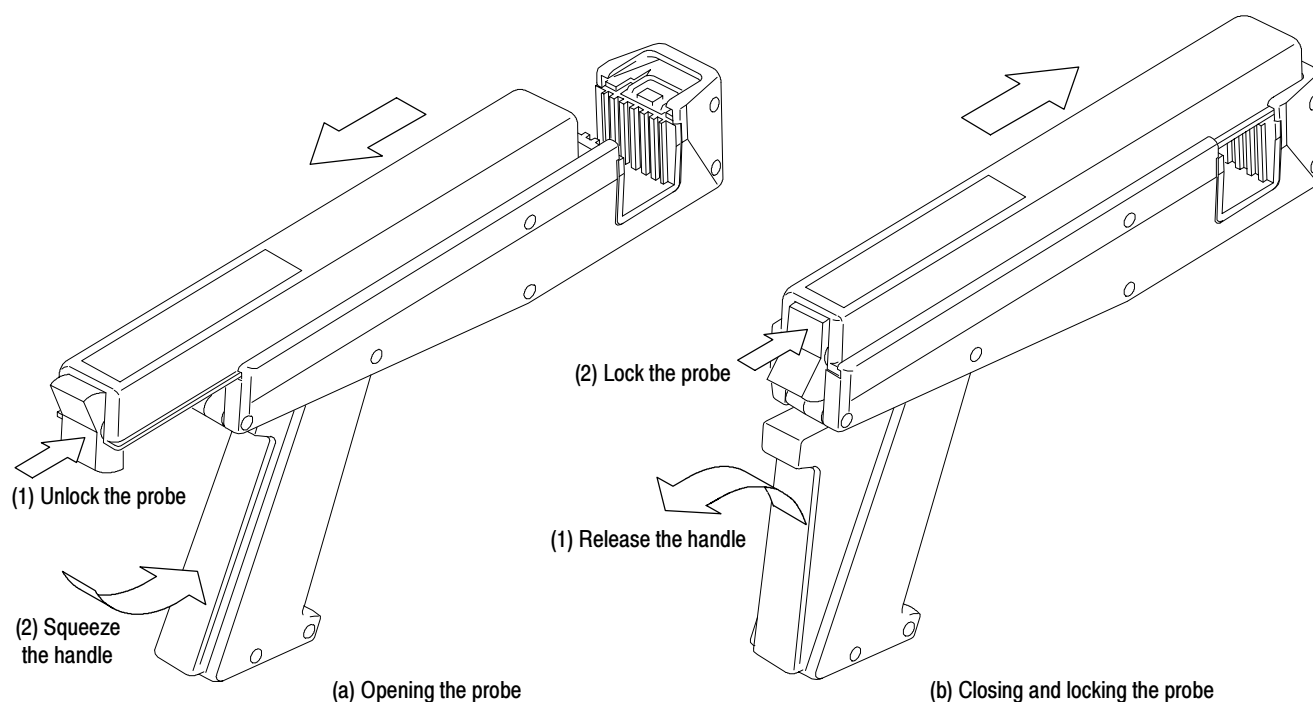

Figure 2: Operating the probe slide
Figure 2 illustrates the slide operation of the probe. To open the probe, press the bottom of the lock button and squeeze the handle until the core is open. To lock the probe, release the squeeze handle and press the top of the lock button.
3. Lock the probe slide closed as shown in Figure 2(b).